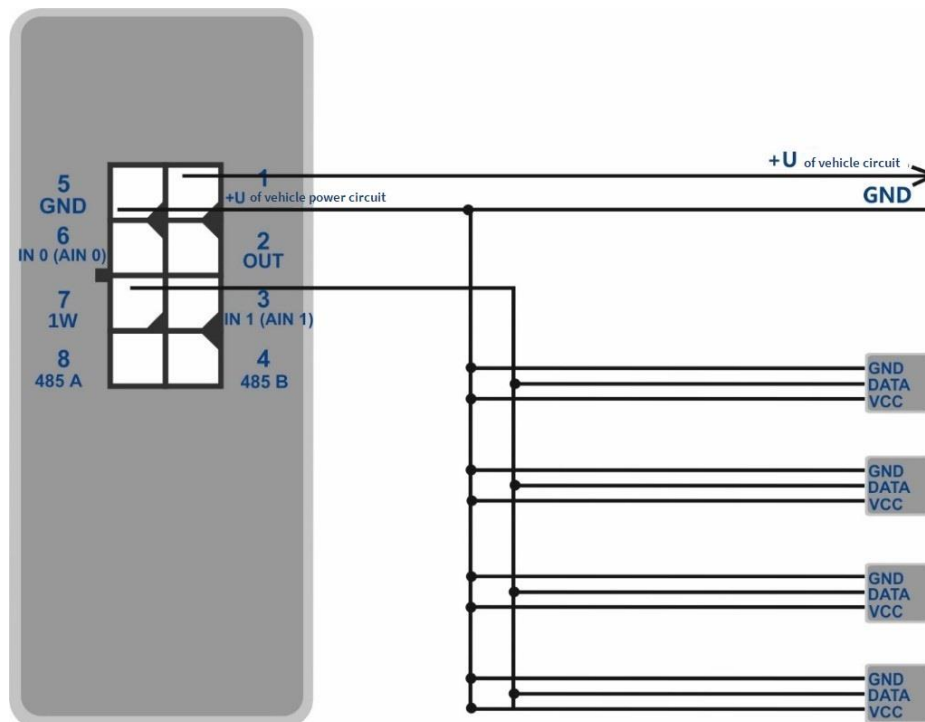

Figure 11 – Connection scheme of the sensors and iButton DS18B20 to CAN of 1-wire
- Connect temperature sensors to the CAN of 1-Wire using the scheme in figure 11.